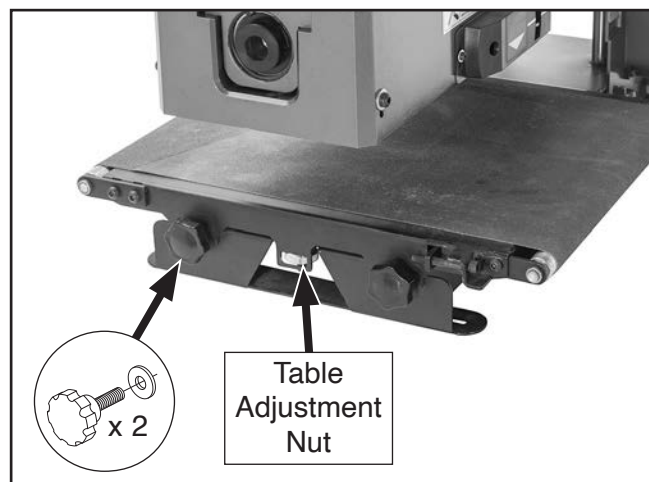

Figure 41. Table slot aligned with table adjustment nut.
9. Place table back under drum, aligning table adjustment nut (see **Figure 41**), with slot in table, then secure with fasteners removed in **Step 6**.
10. Install table lock knobs and flat washers (see **Figure 41**).